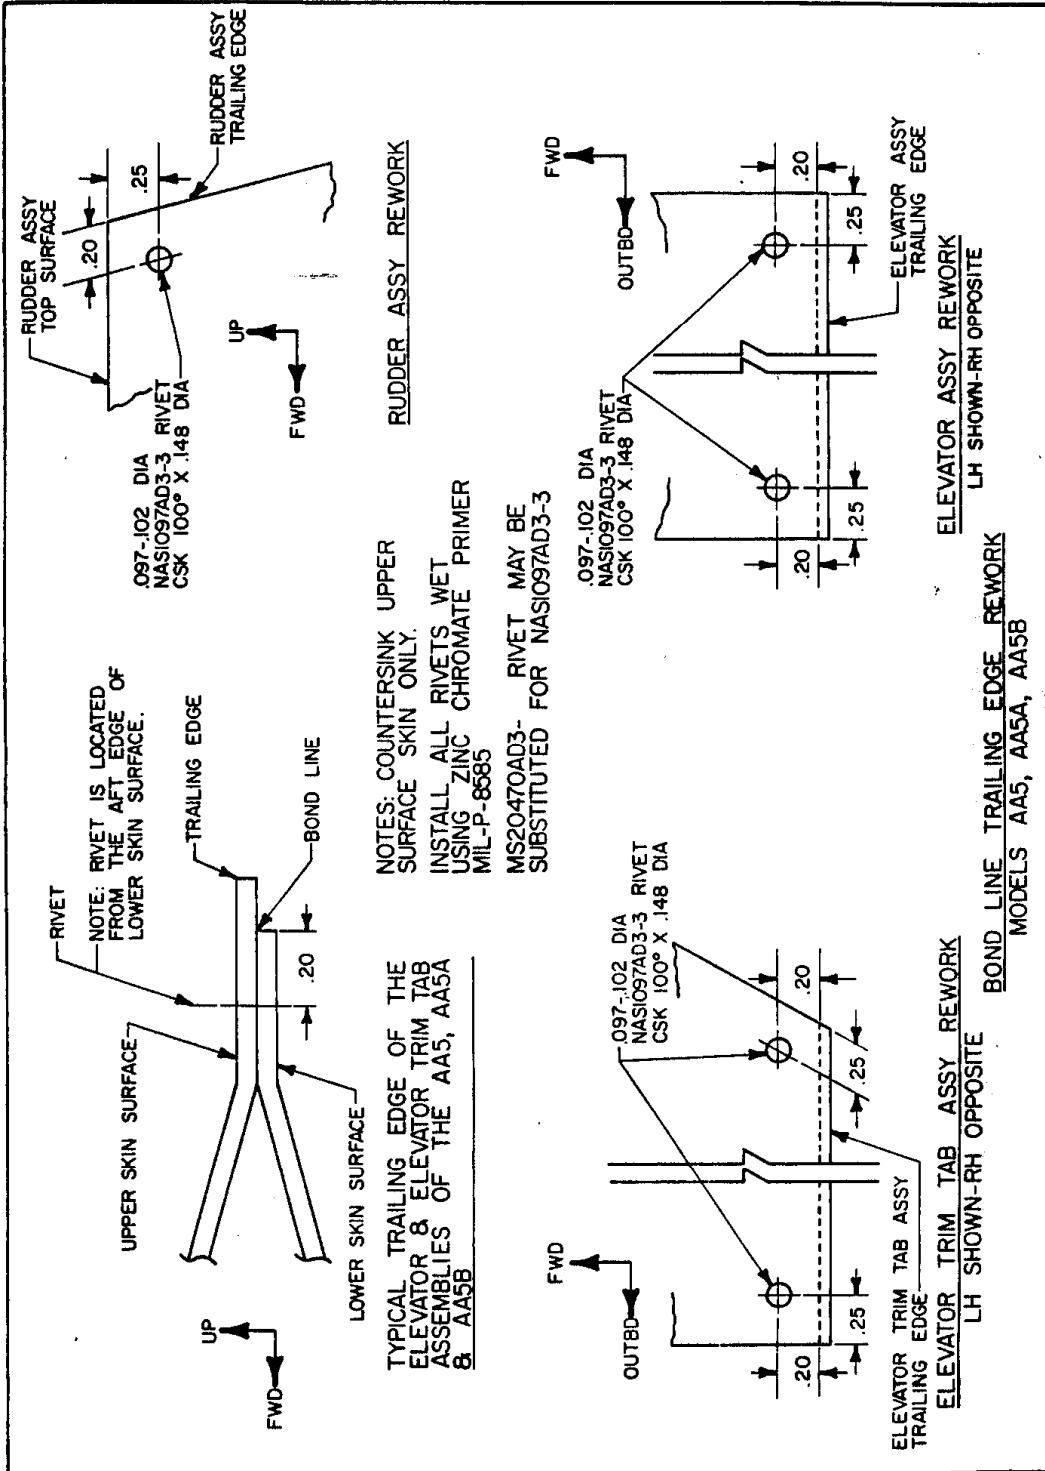

FIGURE 3
1. On top of rudder hole drill .097 - .102 Dia. Hole (See Figure 3). Countersink hole 100° x .148 on L/H side only.
3. On inboard and outboard ends of elevator trim tab drill .097 - .102 Dia. Hole (See Figure 3). Countersink holes 100° x .148 Dia. on upper surface skin only. Install NAS1097AD3-3 Rivet, wet with zinc chromate primer (MIL-P-8585).
4. On AA-5A and AA-5B elevators drill .097 - .102 Dia. Hole in both elevators in inboard and outboard ends. Countersink holes 100° x .148 Dia. on upper surface skin only. (See Figure 3). Install NAS1097AD3-3 Rivet, wet with zinc chromate primer (MIL-P-8585).